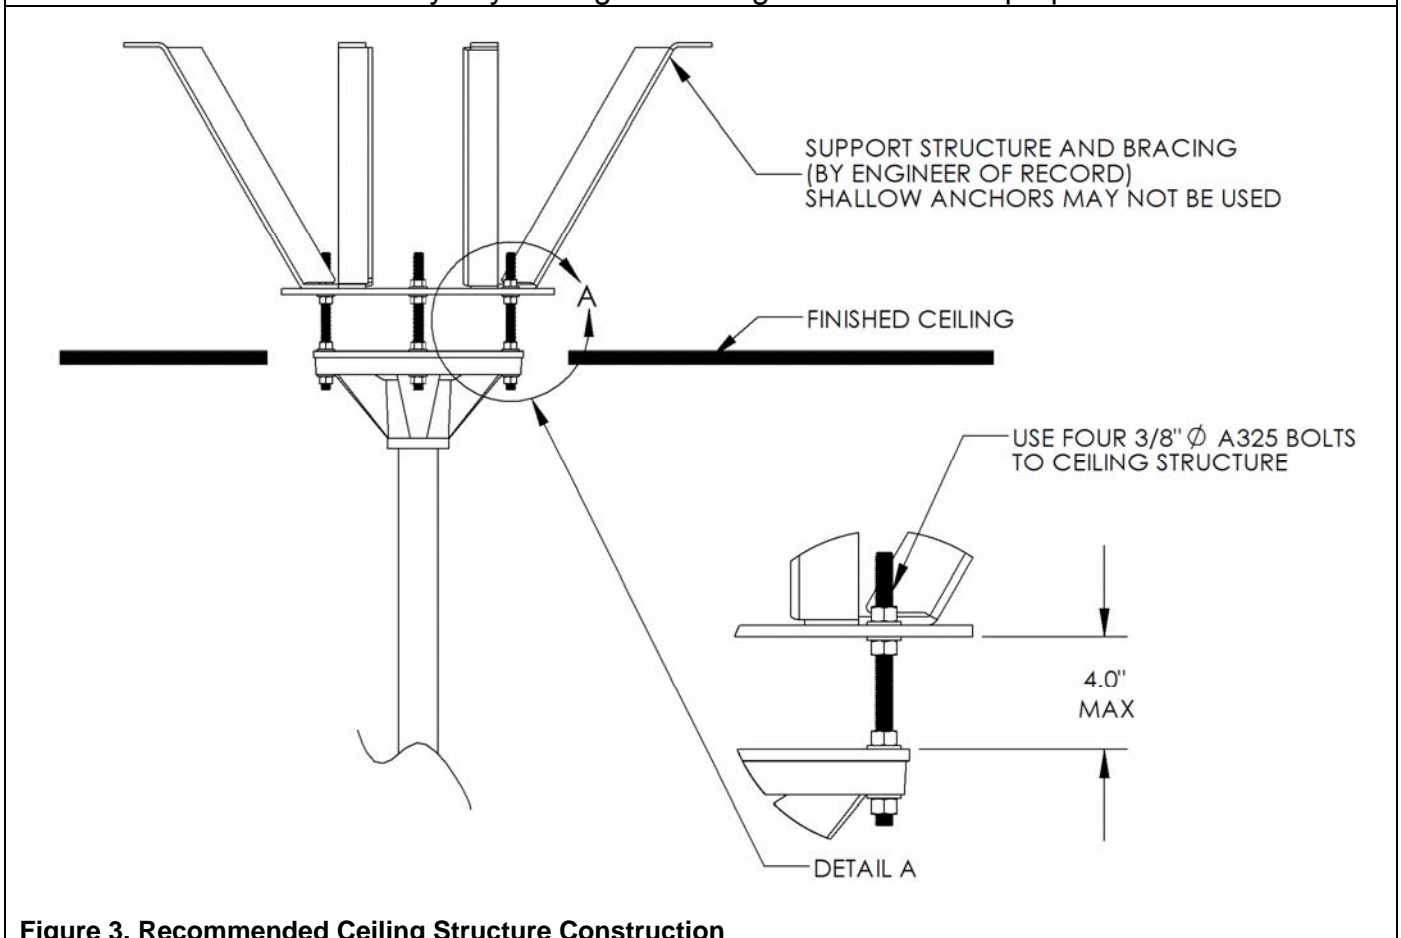

Figure 3. Recommended Ceiling Structure Construction
Because the ceiling structure is the owner's responsibility, the design and construction recommendation shown below (see Figure 3. Recommended Ceiling Structure Construction) covers only one of the many possible alternatives that can be used. Medical Illumination highly recommends that the owner consult a structural engineer prior to designing and installing the ceiling structure.
- Mount the Ceiling casting to the ceiling structure using four $\frac{3}{8}$ " DIA A325 bolts with nuts and washers as shown in Figure 3. Recommended Ceiling Structure Construction.
Note: Ceiling rod must be plumb. Adjust the nuts/washers in Figure 3 accordingly.